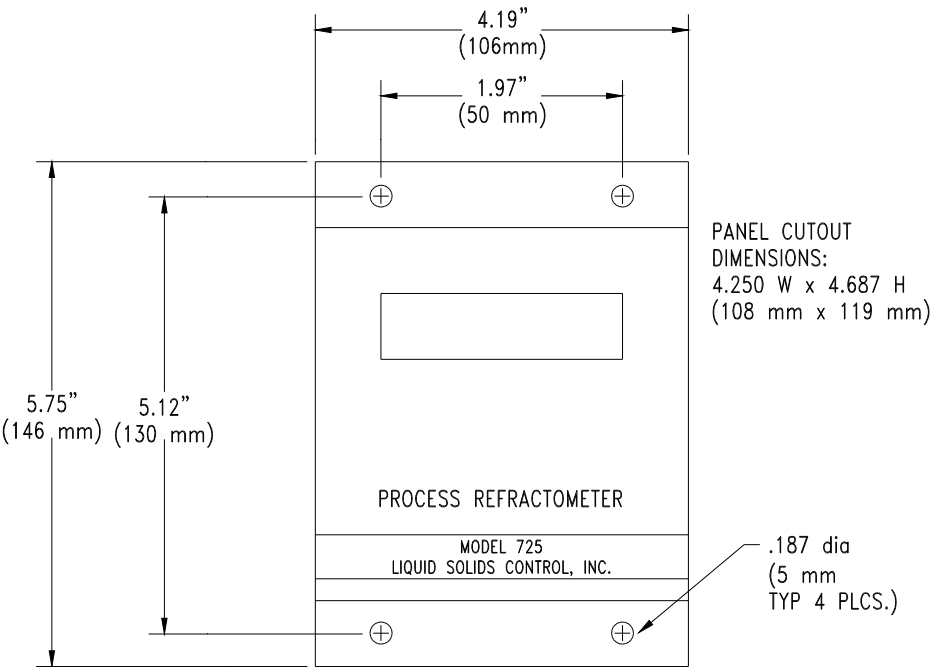

Figure 21. Panel Mount Dimensions
- **PANEL MOUNT:** The panel mount electronics enclosure is mounted through a 4.25" x 4.68" (108 mm x 119 mm) cut out and secured with four 3/16" dia screws, as shown in *Figure 21*.